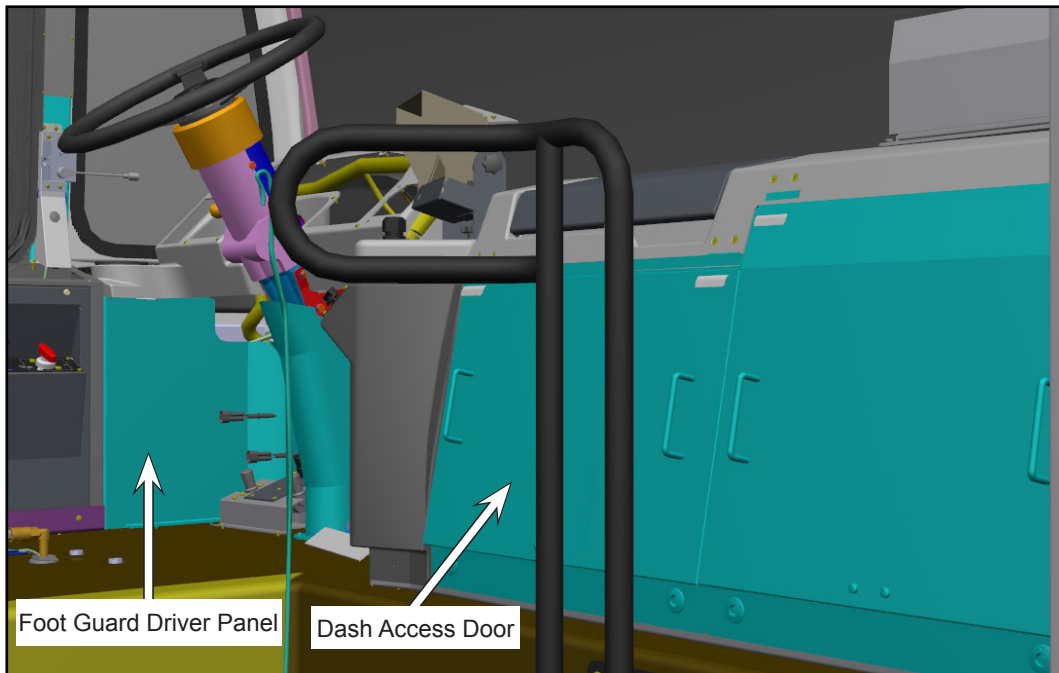

Figure 2 - Typical View of Foot Guard Driver Panel and Dash Access Doors
- 1.5. Remove and retain the foot guard driver panel and open the dash access doors (see Figure 2).